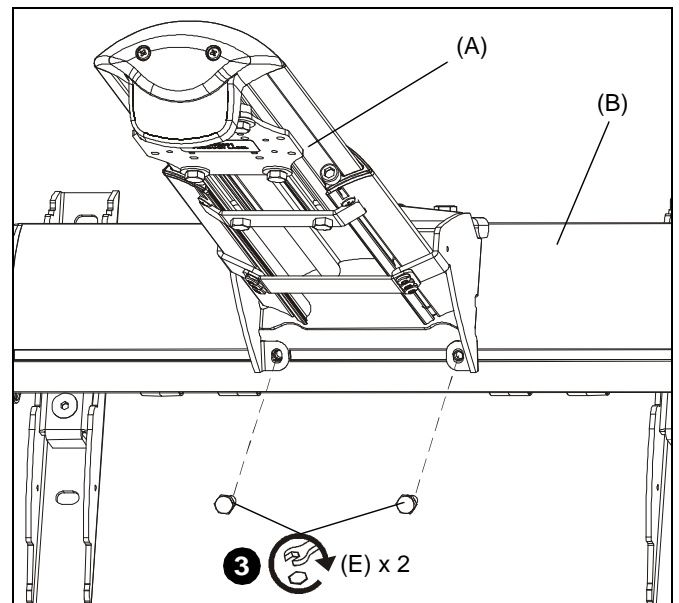

Figure 15
3. Install two 1/4-20 x 5/8" hex head bolts (E) through holes on short throw projector arm (A) and into sliding nuts on mounting bracket (B). DO NOT TIGHTEN SCREWS AT THIS POINT! (See Figure 15)
- Tighten two bolts installed in Step 3. (See Figure 15)